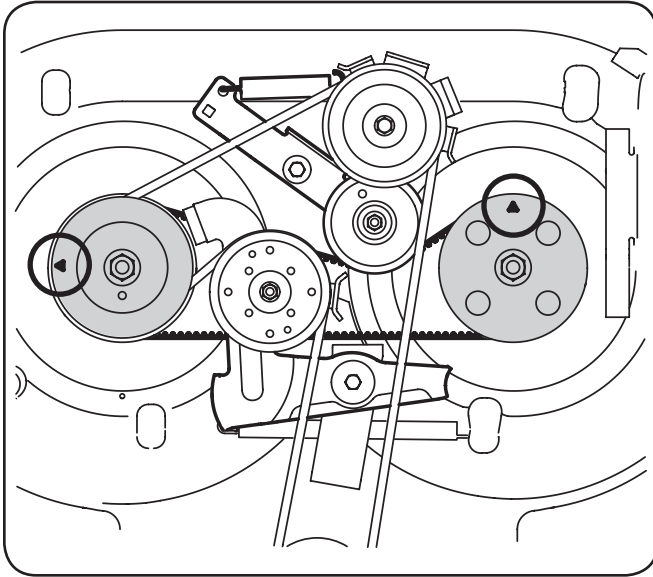

Figure 6-6
- The top of each spindle pulley is marked with an arrow. See Fig. 6-6. The arrows should be perpendicular (at a 90° angle) to each other.